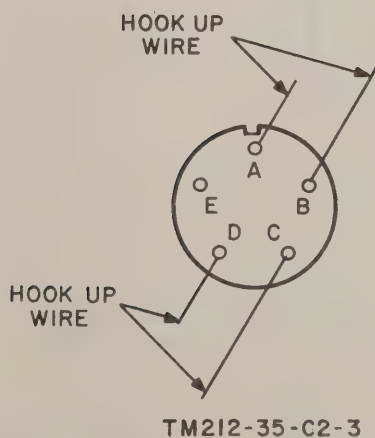

Figure 48.3. (Added) Converter special purpose test cable.
h. To perform the test on the converter, fabricate a special purpose test cable as illustrated in figure 48.3. It is recommended but not required that wires be color coded.